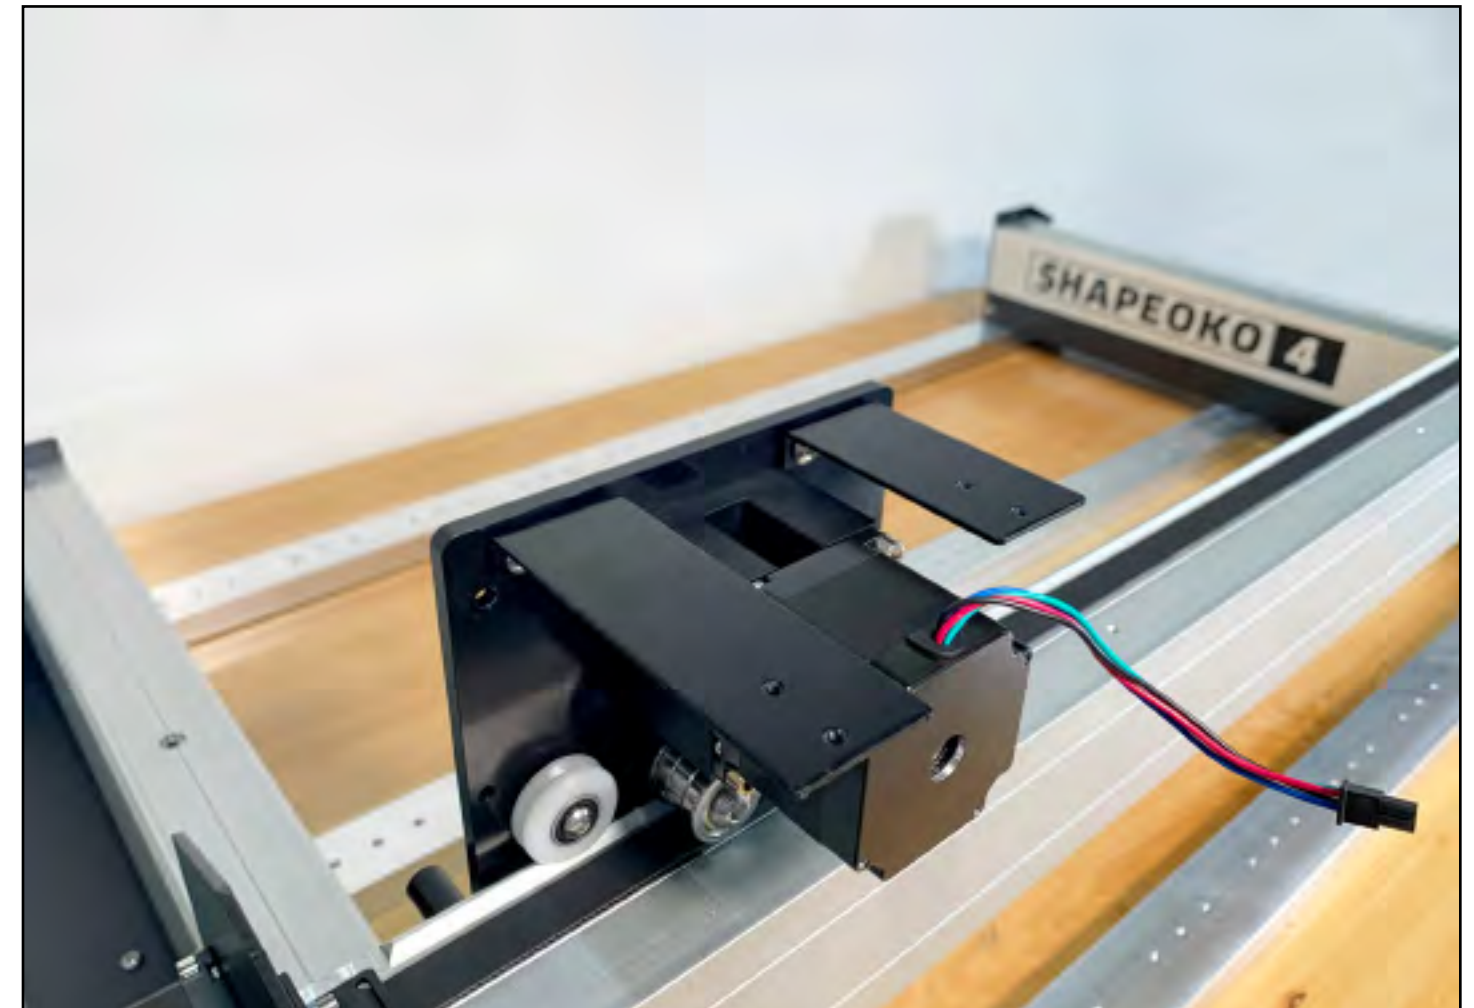

Figure 5-10
1. Position the (longer) router drag chain head bracket on the BACK of the X/Z assembly (See **Fig. 5-10**):
- a. Align to the two (2) M5 holes in the upper-left corner (from the rear).
2. Use a 3mm hex key and two (2) M5×6mm BHCS to secure the bracket to the X/Z assembly. Fully tighten.